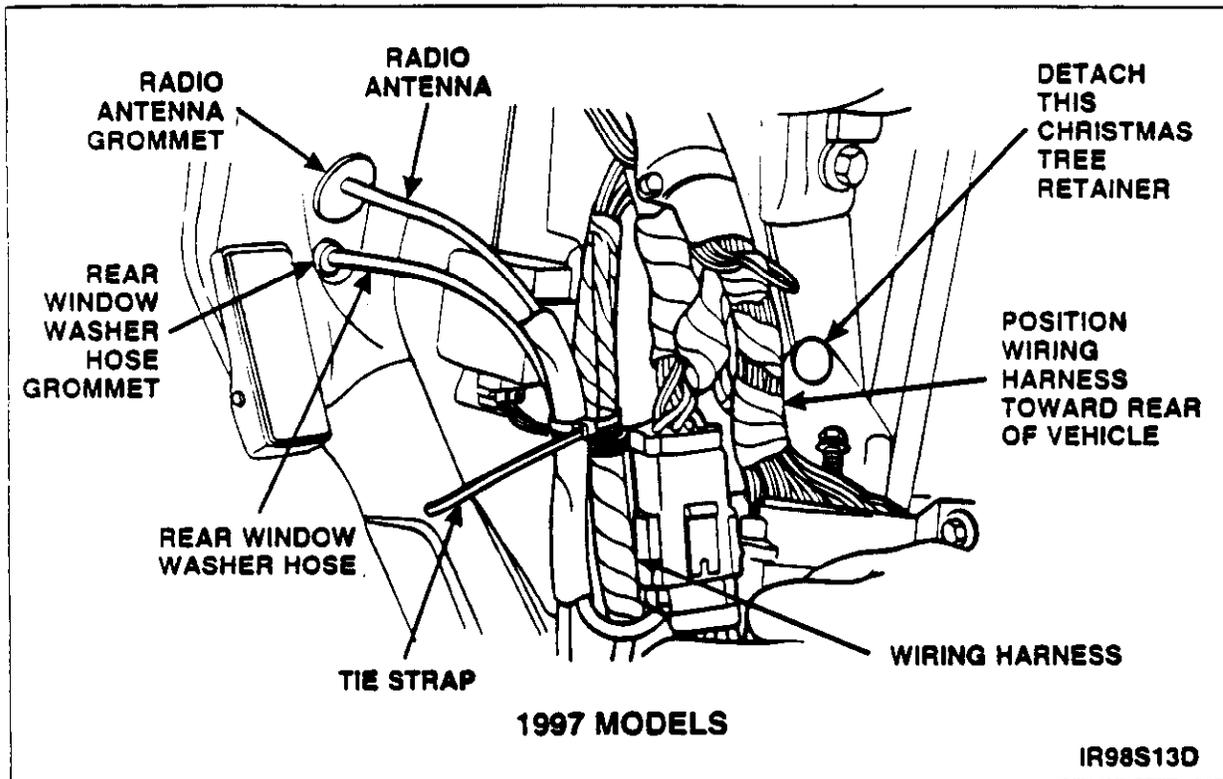

FIGURE 3
- Detach christmas tree retaining wiring harness to location shown in Figure 3. Position wiring harness toward rear of vehicle.
- Using tie strap, secure radio antenna and rear window washer hose to wiring harness shown in Figure 3. Make sure grommets are not pulled out of dash panel.